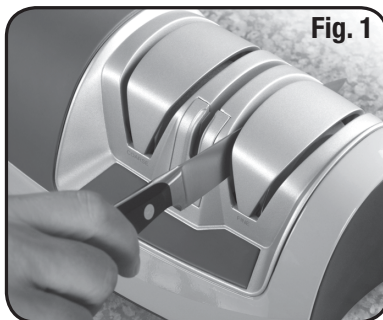

Fig. 1
4. Hold the knife securely by the handle as you would in normal usage and position the heel of the blade over the selected sharpening slot. Insert the blade into the upper portion of the sharpening slot then rotate the handle of the knife down (slightly raising the tip of the blade) until the heel of the blade contacts the sharpening wheel (**Fig. 1**). As soon as contact is made and you hear the distinctive grinding sound, pull the blade at a consistent speed through the sharpening slot using light, downward pressure. To sharpen all the way out to the tip of the blade, lift up on the knife handle slightly as the curved portion of the blade is drawn through the blade guides.